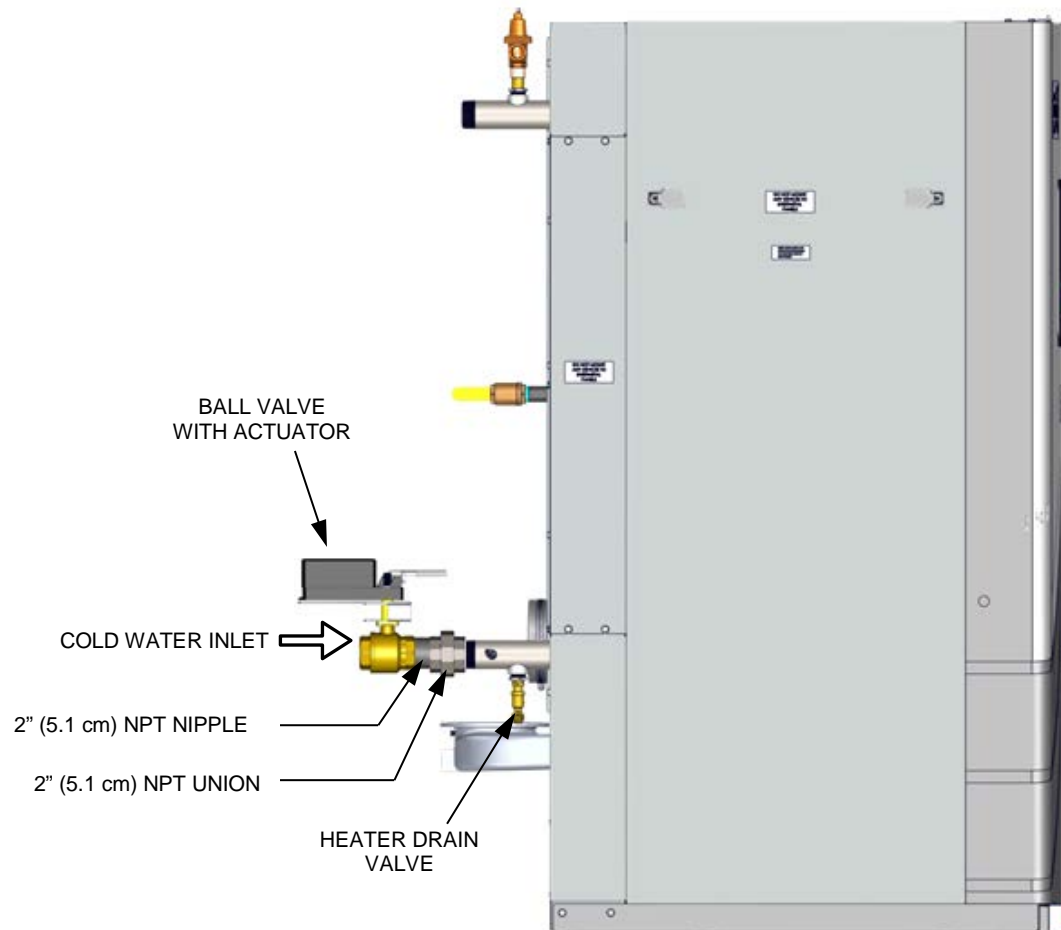

Figure 8-2. Innovation Water Heater Equipped With Sequencing Valve
2. Refer to Figure 8-2 and attach the valve to the cold water inlet of the unit (shown in Figure 8-2, below) using the pipe union and nipple provided.
3. Ensure that the valve is positioned with the actuator enclosure position as shown in Figure 8-2.